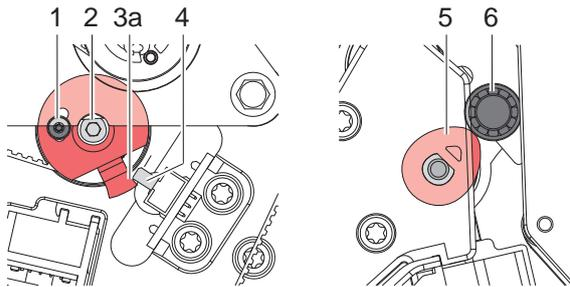
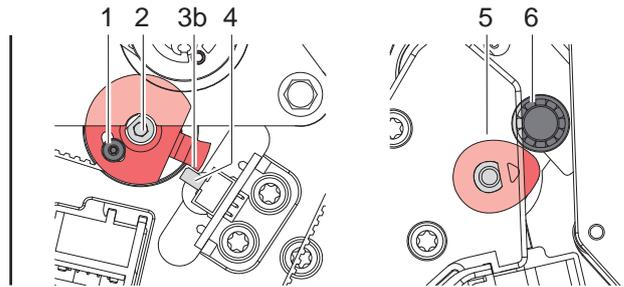

Fig. 29 Eccentric in saver mode
Fig. 30 Eccentric in print mode
4. Loosen the screws (1) at the clock wheel.
5. Turn axle (2) in such a way that the eccentrics (5) lift the printhead via the ball bearings (6) at most ▷ Fig. 29 .
6. Adjust a minimum gap between flange (3a) and the edge of the sensor housing (4) by turning the clock wheel ▷ Fig. 29.
7. Tighten screw (1).
8. Turn axle (2) in such a way that there is a minimum gap between flange (3b) and the other edge of the sensor housing ▷ Fig. 30.